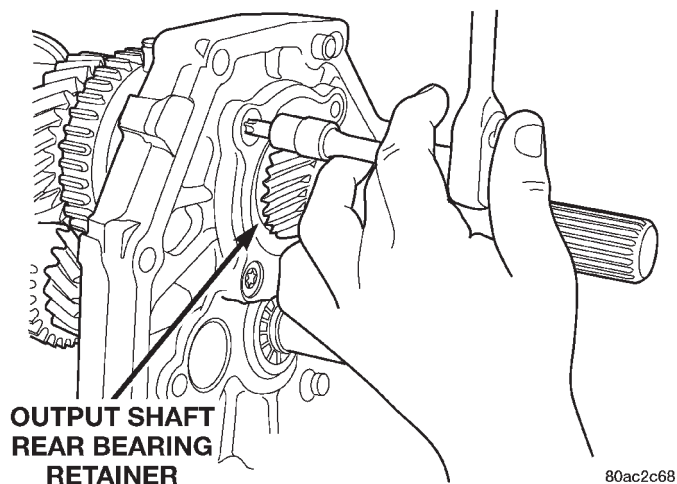

Fig. 58 Remove Output Shaft Rear Bearing Retainer
- (11) Remove bolts holding output shaft rear bearing retainer to the intermediate plate and remove retainer (Fig. 58).